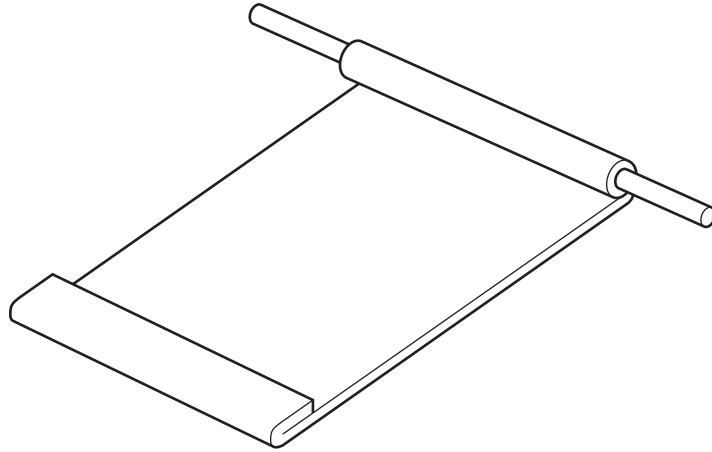

Fig. 4
- 3 (a) Fig. 4 shows a piece of tinplate which has two of the edges prepared.
- (i) Name each of the edges shown in Fig. 4. [2]